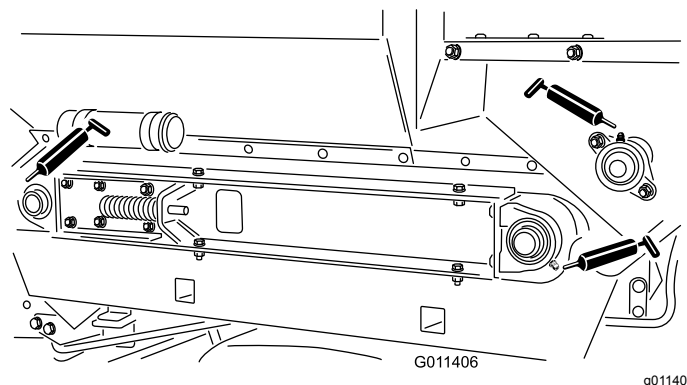

Figure 21
The grease fitting locations (Figure 21) and quantities are: Roller shaft bearings (4) and Brush shaft bearing (1).